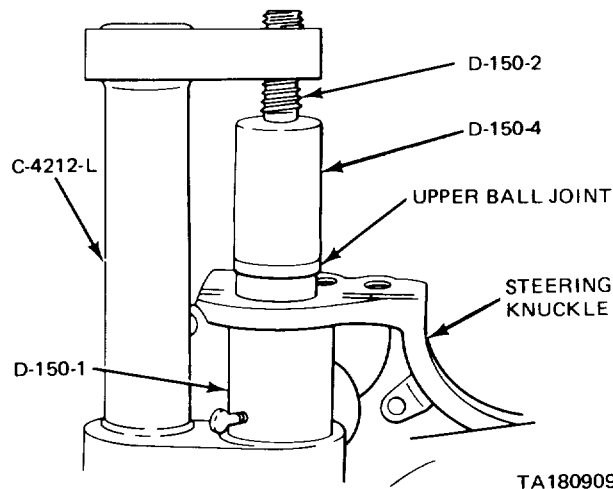

Figure 6-7. Installing Upper Ball Joint.
(2) Using tool C-4212-L and adapter set C4288 positioned as shown in figure 6-7, press the upper ball joint into position. Install boots on both ball joints.